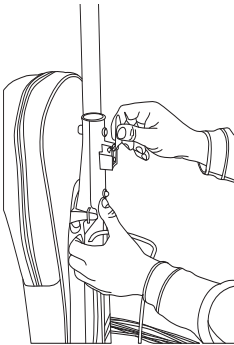

Fig. 3
3. Place the handle bracket back into position (Fig. 3).